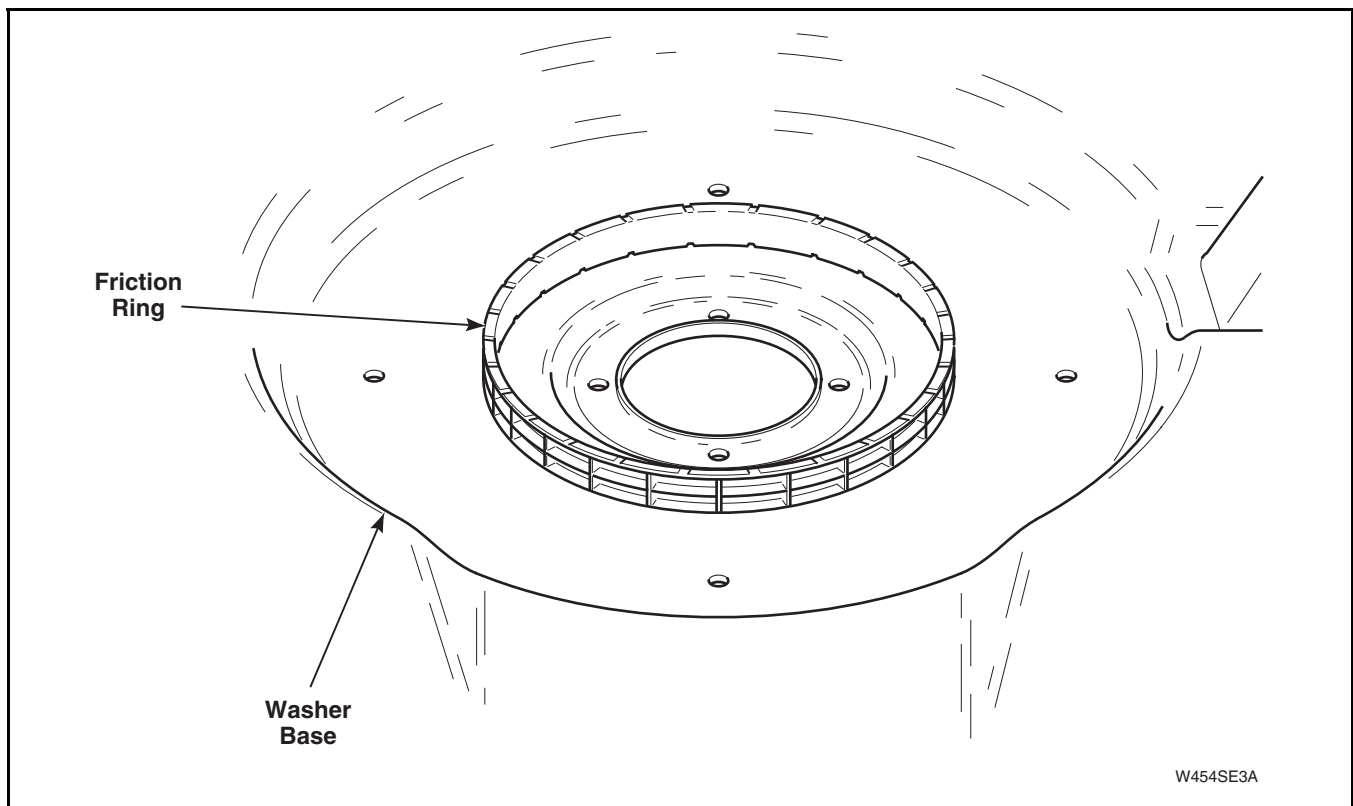

Figure 74
- k. Remove old friction ring from washer base. Refer to *Figure 74*.
- m. Carefully place complete tub module back into washer making sure the weldment assembly is positioned properly over the friction ring and the recess area of washer base. Refer to *Figure 74*.